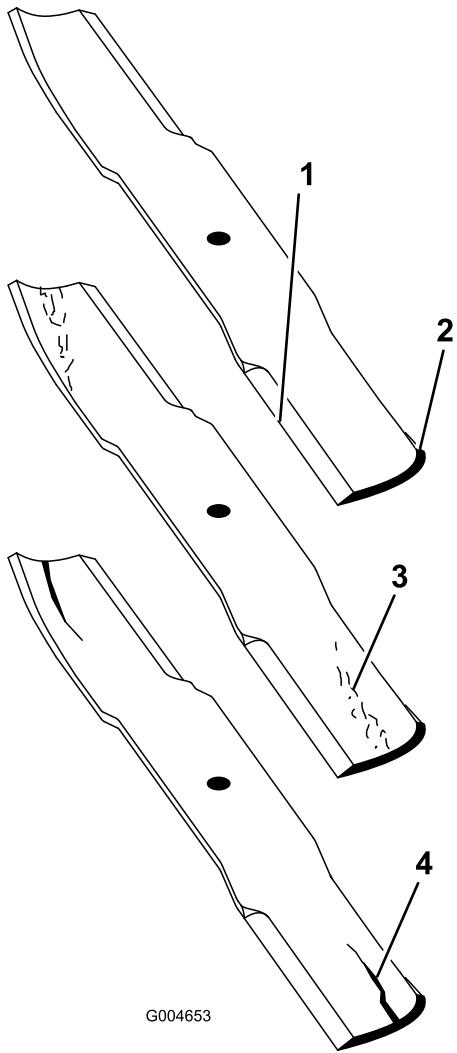

Figure 89
2. Examine the cutting ends of the blade carefully, especially where the flat and curved parts of the blade meet (Figure 89).
Note: Because sand and abrasive material can wear away the metal that connects the flat and curved parts of the blade, check the blade before using the mower. If wear is noticed (Figure 89), replace the blade.